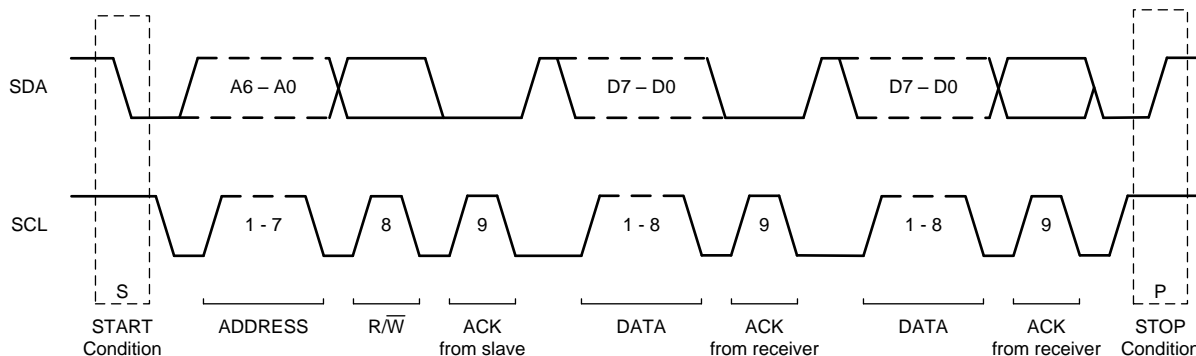

图 55. I2C Data Transfer Format
Figure 55 shows the format of the data transfer. The master initiates all transactions with the ADS122C04 by generating a START (S) condition. A high-to-low transition on the SDA line while SCL is high defines a START condition. The bus is considered to be busy after the START condition.